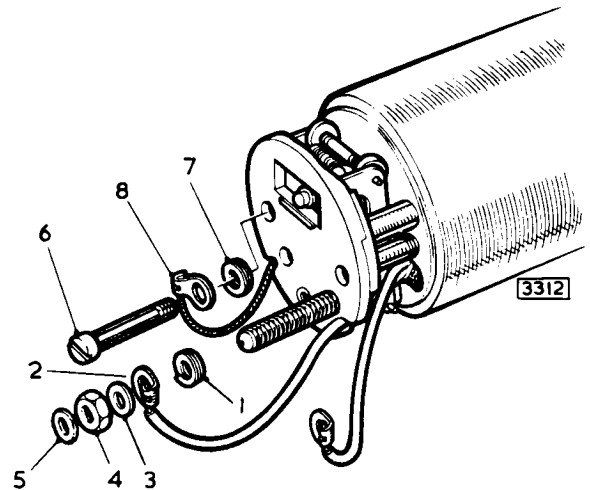

Fig. 5. Attaching the pedestal to the coil housing.
Assemble the 2 B.A. spring washer (1) (Fig. 5), and put the terminal stud through the 2 B.A. terminal tag (2), then fit the lead washer (3) and the coned nut (4) with its coned face to the lead washer. (This makes better contact than an ordinary flat washer and nut).